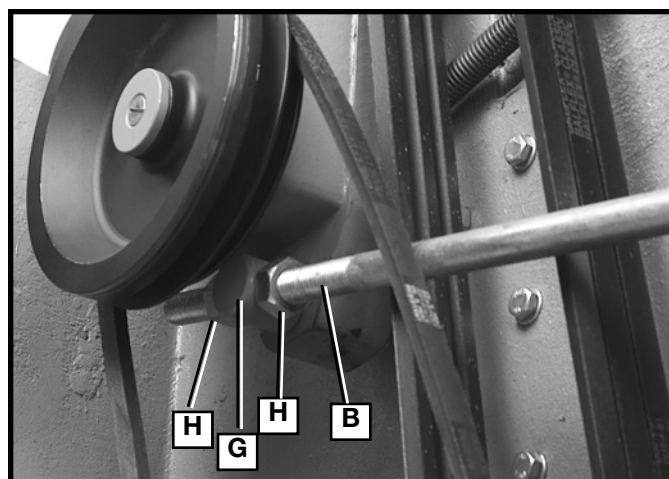

Fig. 18
If an adjustment is necessary, change position of rod (B) Fig. 18, in stud (G) by tightening and loosening two nuts (H) until correct belt tension is obtained. Both nuts (H) should be tight against stud (G) as shown in Fig. 18, after adjustment is made.